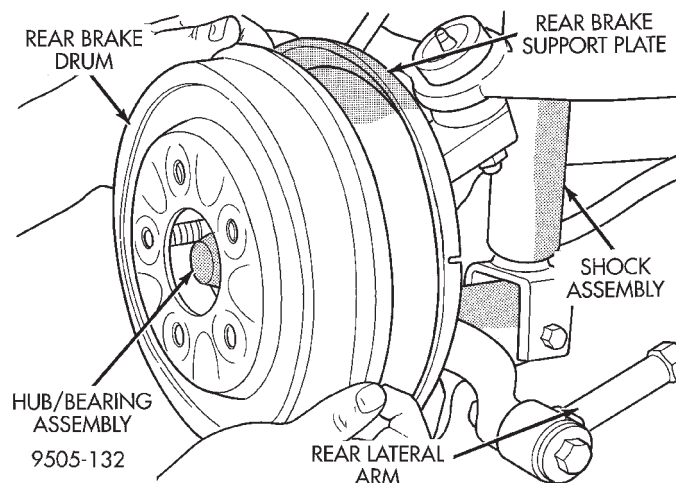
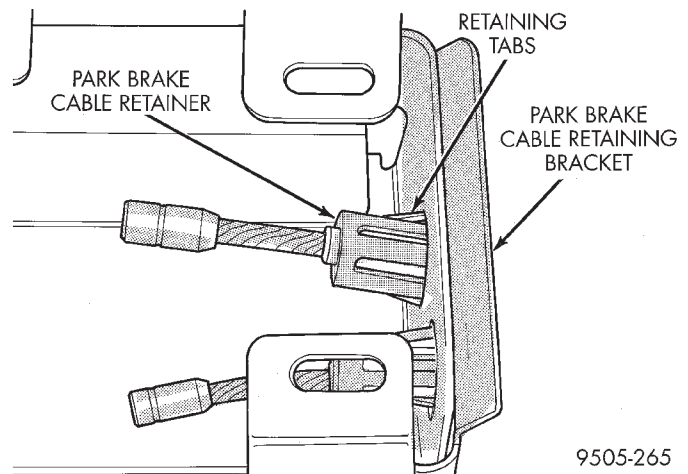

Fig. 146 Rear Brake Drum
Fig. 154 Park Brake Cable Installed In Console Bracket
(15) Raise vehicle on jackstands or centered on a frame contact type hoist. See Hoisting in the Lubrication and Maintenance section of this manual for the required lifting procedure to be used for this vehicle.
(16) Remove rear wheel and tire assembly from the side of the vehicle requiring park brake cable service.
(17) Remove the rear brake drum (Fig. 146) from the rear hub/bearing assembly.
(7) Install rear brake drum on hub/bearing assembly (Fig. 146).
(8) Install rear wheel and tire assembly on vehicle. Tighten all wheel stud nuts in criss cross pattern to one-half specified torque. Then repeat pattern, fully tightening stud nuts to 129 N·m (95 ft. lbs.).
(9) Lower vehicle.
(10) Grasp park brake cable to floor pan seal grommet by hand, and pull it into floor pan to ensure seal grommet is fully seated into floor pan.
(11) Route park brake cable under carpeting and up to park brake cable hole in console bracket on floor pan. Then install park brake cable into console bracket (Fig. 154). Be sure tabs (Fig. 154) on park brake cable retainer, have expanded out to hold park brake cable in console bracket.